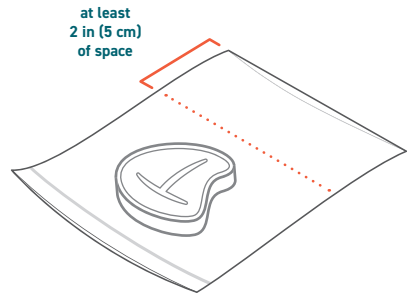

Figure 2.1
2. Carefully place items into the vacuum bag. Make sure there is at least 2 in (5 cm) of room between the bag contents and the opening. **Do not** overfill. [Figure 2.1]